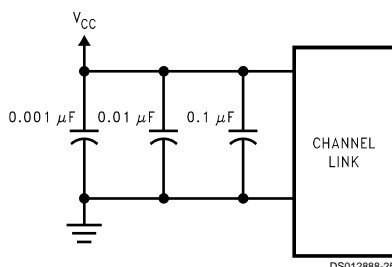

FIGURE 19. CHANNEL LINK Decoupling Configuration
**DECOUPLING CAPACITORS:** Bypassing capacitors are needed to reduce the impact of switching noise which could limit performance. For a conservative approach three parallel-connected decoupling capacitors (Multi-Layered Ceramic type in surface mount form factor) between each  $V_{CC}$  and the ground plane(s) are recommended. The three capacitor values are 0.1 μF, 0.01 μF and 0.001 μF. An example is shown in *Figure 19*. The designer should employ wide traces for power and ground and ensure each capacitor has its own via to the ground plane. If board space is limiting the number of bypass capacitors, the PLL  $V_{CC}$  should receive the most filtering/bypassing. Next would be the LVDS  $V_{CC}$  pins and finally the logic  $V_{CC}$  pins.